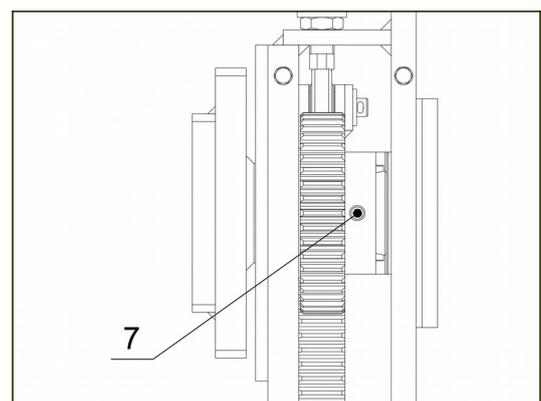
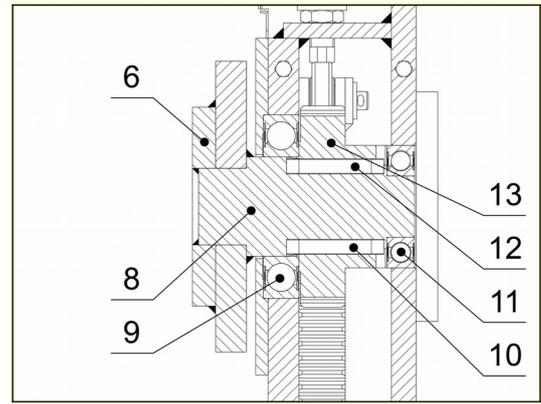

Fig. 66
Fig. 67
3. Secure the gear (Fig. 67, No. 13) against falling.
4. Remove the bolts (Fig. 66, No. 7) and slide out the shaft (Fig. 67, No. 8), remove the pens (Fig. 67, No. 10) and (Fig. 67, No. 12) when pulling the shaft (Fig. 67, No. 8) out.
5. Remove the gear (Fig. 67, No. 13).
6. Remove the bearing (Fig. 67, No. 11).
7. Mount back new bearing (Fig. 67, No. 11).
8. Reinsert the gear (Fig. 67, No. 13) into which prepare the pens (Fig. 67, No. 10) and (Fig. 67, No. 12).
9. Reinsert the shaft (Fig. 67, No. 8), when inserting mount the pens (Fig. 67, No. 10) and (Fig. 67, No. 12) back into their original positions.
10. Secure thoroughly the shaft (Fig. 67, No. 8) with bolts (Fig. 66, No. 7).